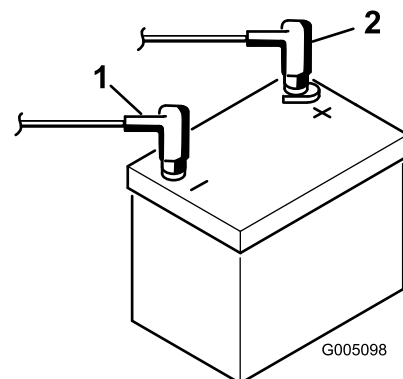

Figure 45
1. Disconnect the negative cable (black) and then the positive cable (red) from the battery (Figure 45).
6. Install the positive cable (red) to the positive (+) terminal and then the negative cable (black) to the negative (−) terminal of the battery (Figure 45) and secure them with the previously removed bolts and nuts. Slide the rubber boot over the positive terminal to prevent a possible short from occurring.